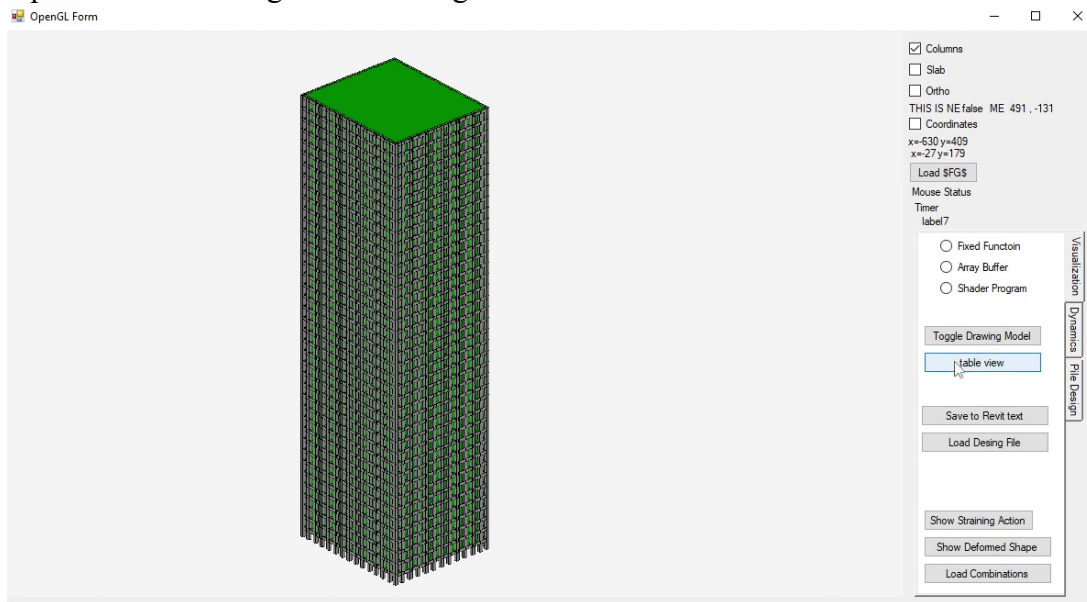
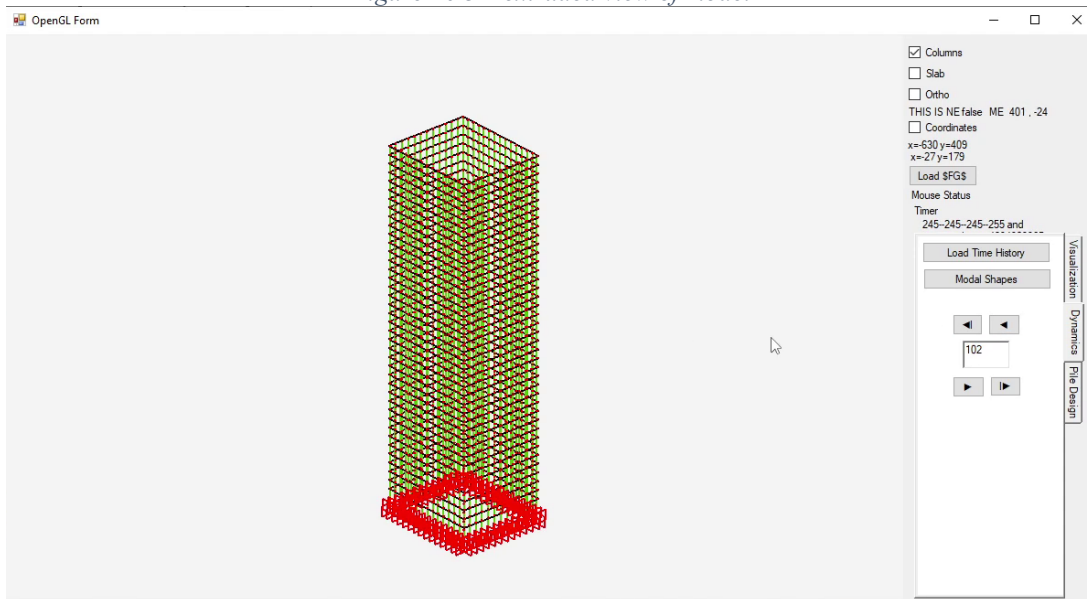

Figure 10 3D extruded view of model
Figure 11 Toggle drawing model
The user can use OpenGL viewer to display the structure 3D VIEW and toggle drawing mode as shown in Figure 10 and Figure 11 respectively
- The user can display toggle mode by click on toggle drawing mode as shown in Figure 11